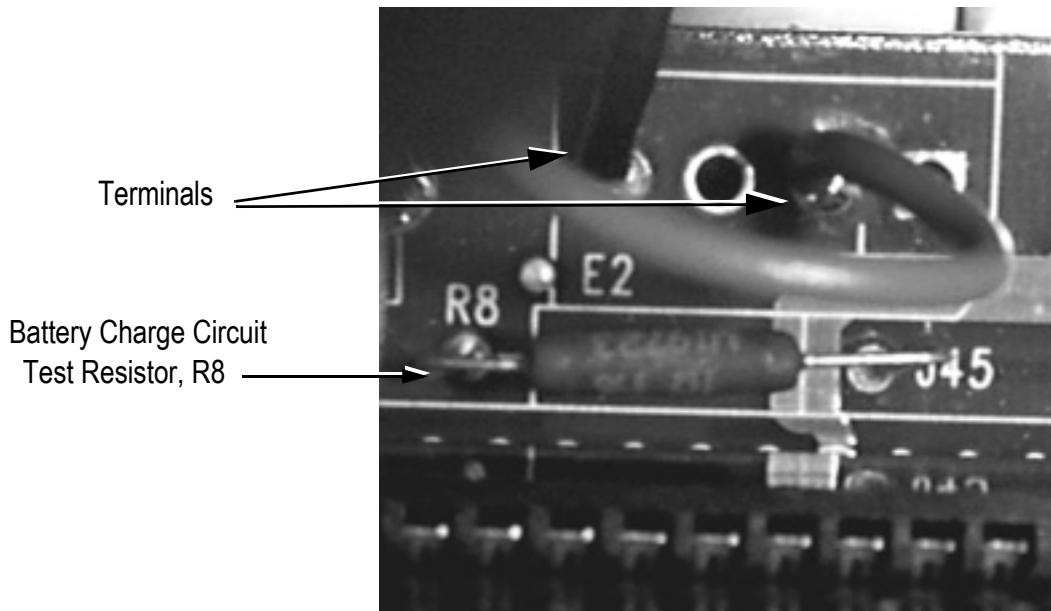

Figure 7-2. Location of Battery Charge Circuit Resistor, R8
1. Attach a DVM across R8 on the motherboard (see Figure 7-2). The polarity of the connections is not important.